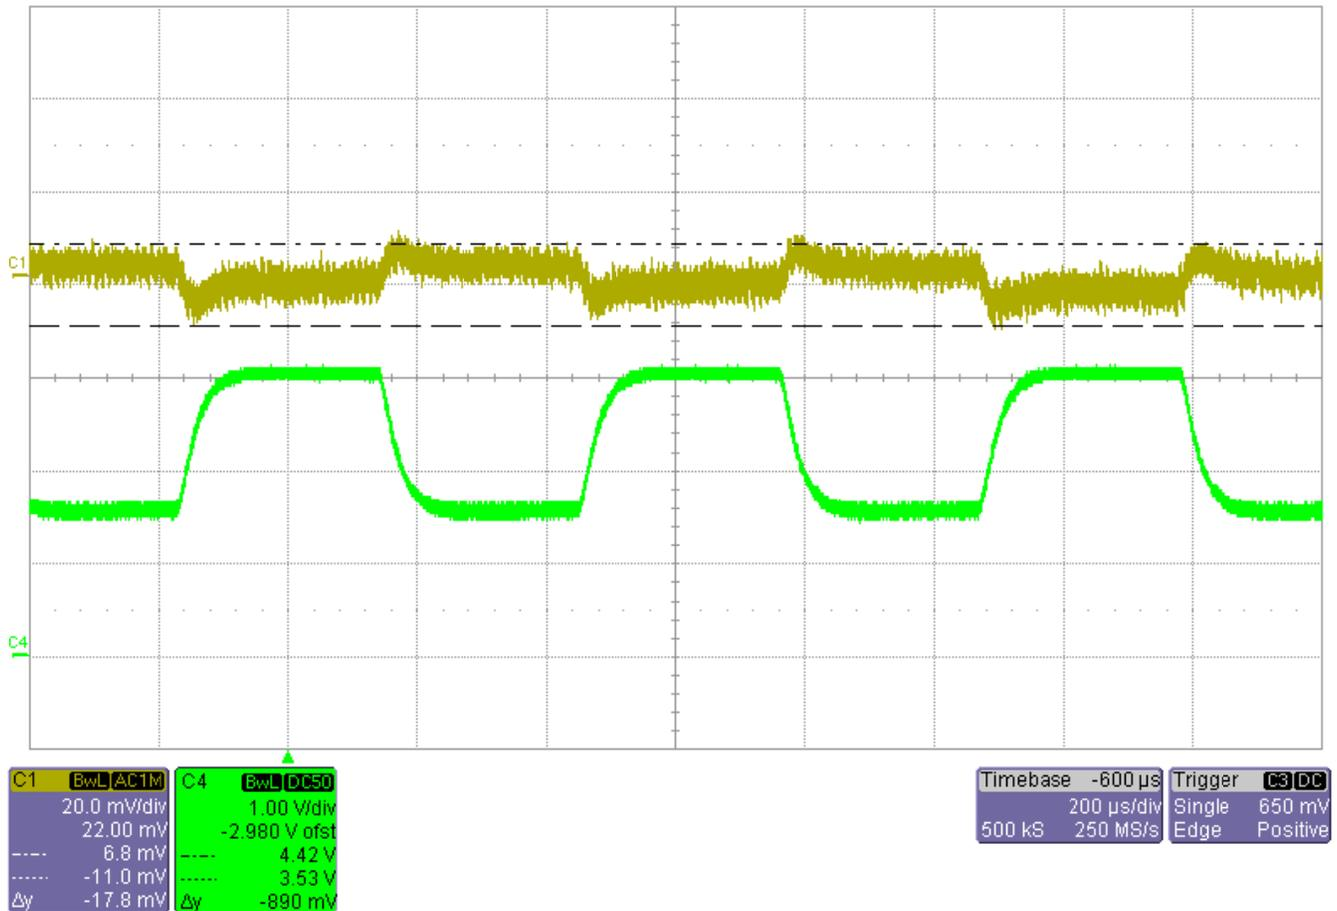

Figure 19: Load Step Response of 1V03_BUCK
- Figure 19: Load Step Response of 1V03_BUCK